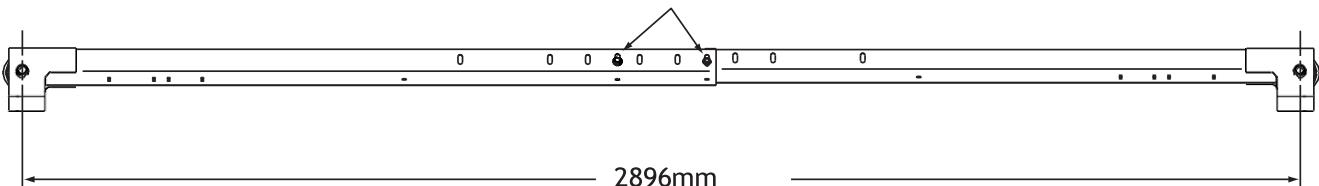

Fig. 6
Assemble overhead, Fig 6. Adjust to appropriate dimension. Install (4) HHCS and Flanged lock nuts,(2) Each Side. DO NOT TIGHTEN.